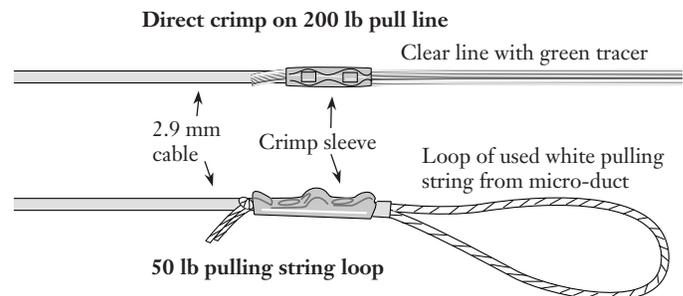

Figure 1
**1.1** This document describes procedures for attaching either 200 lb or 50 lb pre-installed micro-duct pull lines to a 2.9 mm single fiber cable with a Corning Cable Systems TKT-DROP-GRIP kit (Figure 1). In addition, this document describes how to attach up to three cables to a single 50 lb pull line for pulling multiple cables together into a micro-duct.